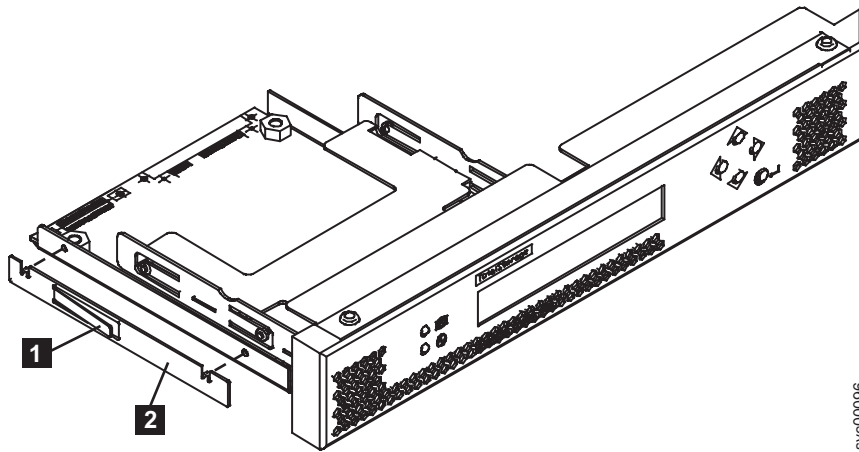

Figure 91. SAN Volume Controller 2145-8F2 or SAN Volume Controller 2145-8F4 service controller
1. Place the retention clip (**2** in Figure 91 on page 91) over the locating holes on the left side of the service controller.